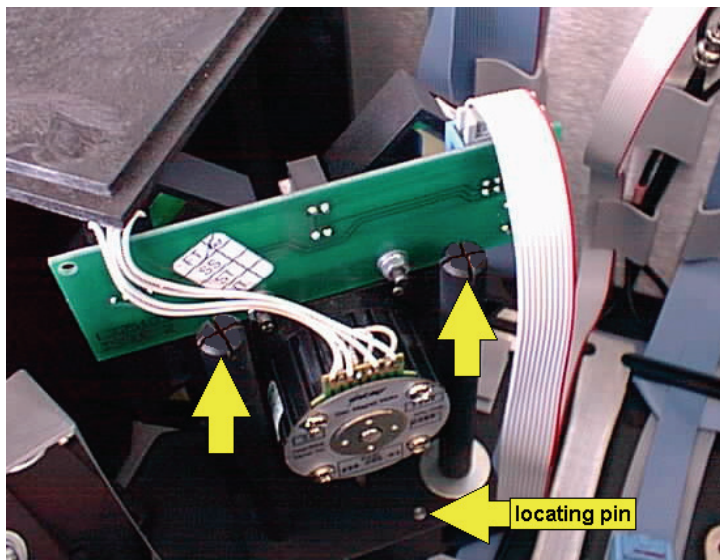

Figure 95 Fixing the filter wheel to the plinth
9. Secure using the 2 long screws fixed to the motor assembly, as shown in Figure 95.